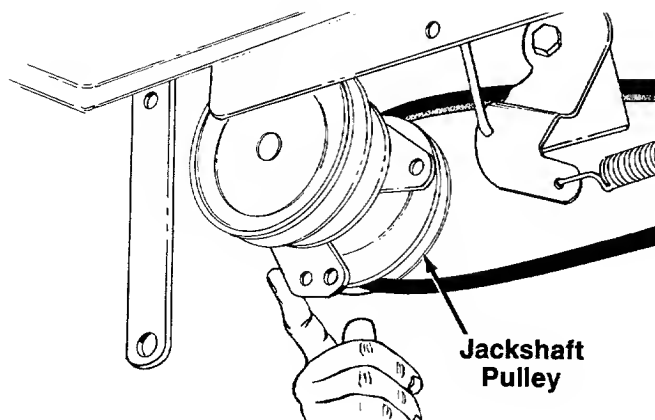

FIGURE 20.
2. Push forward on the jackshaft assembly, and slip the back of the belt at the jackshaft off the jackshaft pulley. See figure 20.